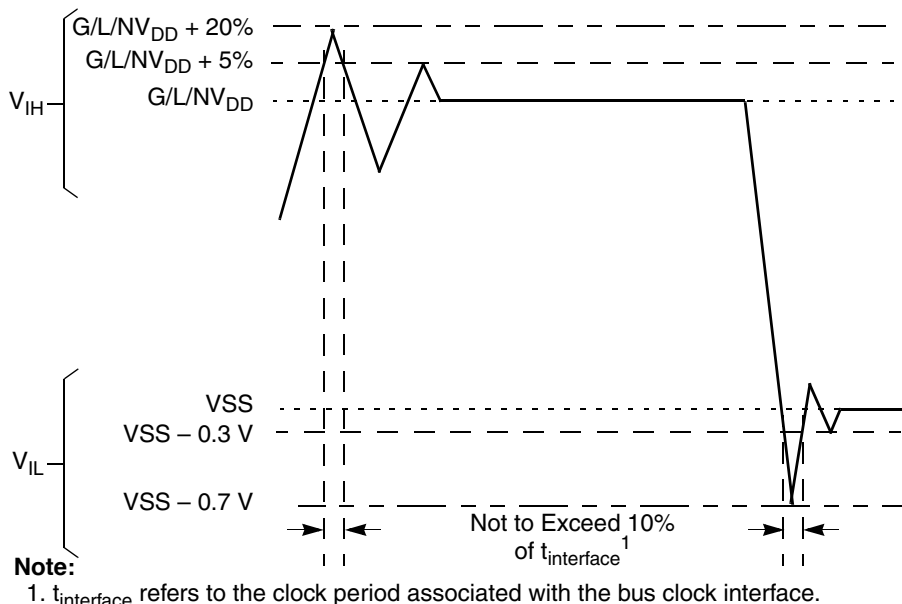

Figure 2. Overshoot/Undershoot Voltage for GVDD/NVDD/LVDD
- (M, L, O) $V_{IN}$  and  $MV_{REF}$  may overshoot/undershoot to a voltage and for a maximum duration as shown in Figure 2